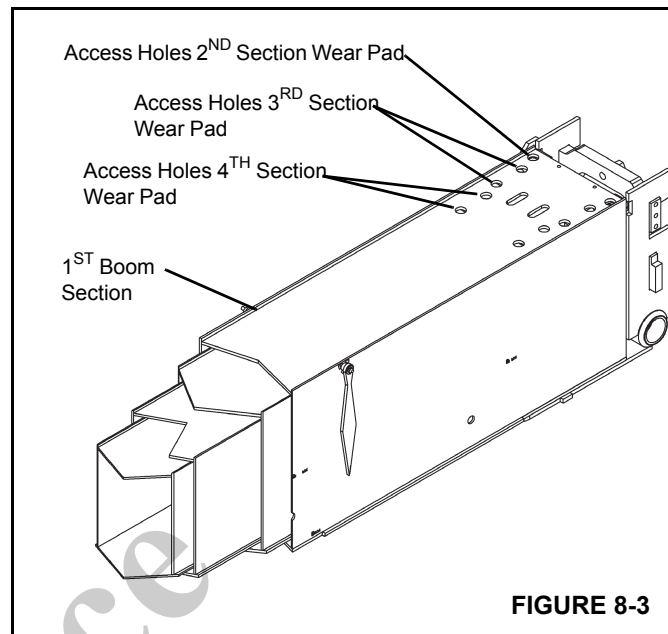

FIGURE 8-3
2. Apply grease at all contact points for the wear pads on the top of the 2nd section through the access holes in the 1st section with a grease gun (Figure 8-3).